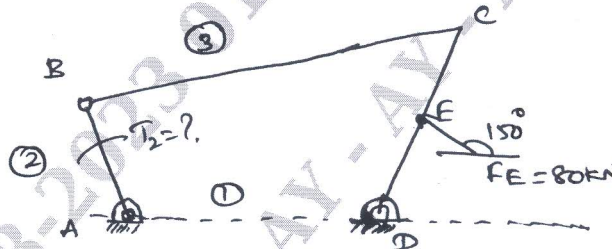

Fig.Q3(a)
- 3 a. A four bar line mechanism is acted upon by forces as shown in Fig.Q3(a). determine the torque T_2 to be applied on link 2 to keep the mechanisms in equilibrium $AD = 50\text{mm}$, $AB = 40\text{mm}$, $BC = 100\text{mm}$, $DC = 75\text{mm}$, $DE = 35\text{mm}$.